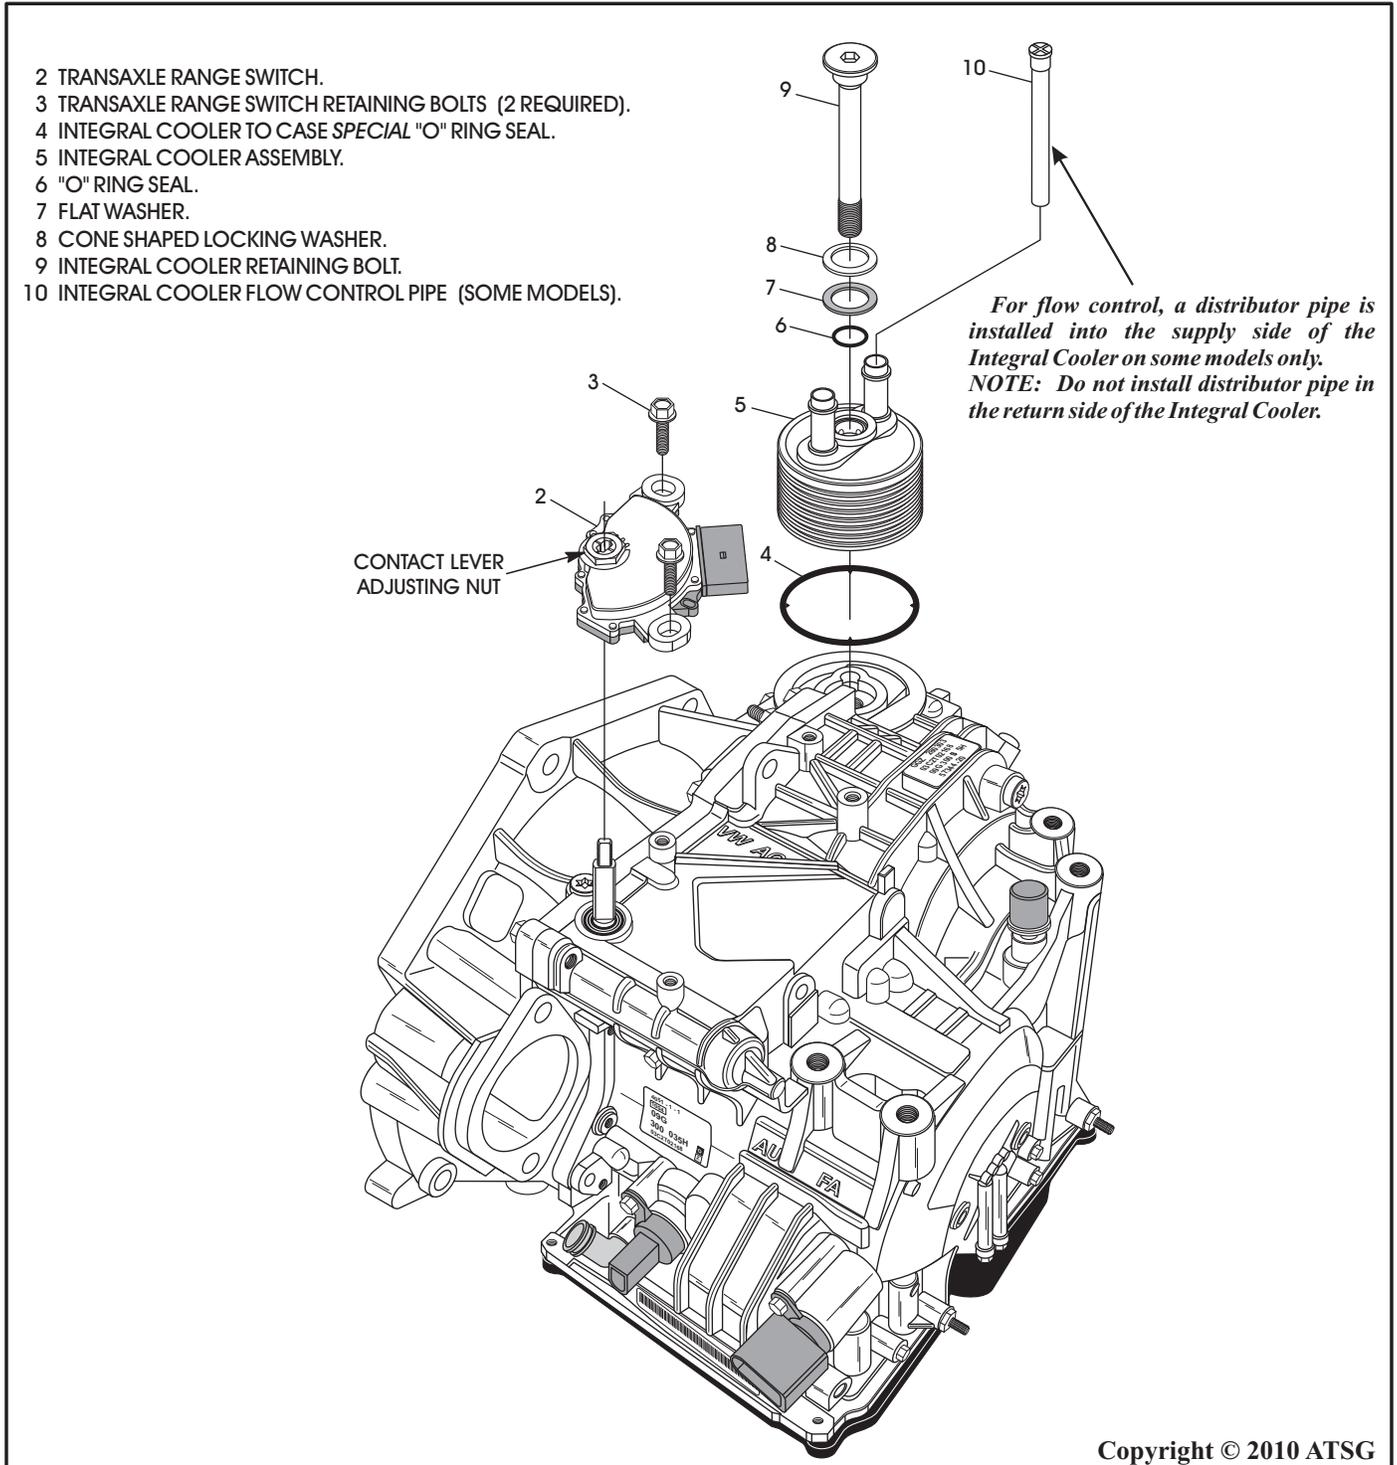

Figure 51
5. Remove the 2 transaxle range switch retaining bolts and range switch, as shown in Figure 51.
Note: The contact lever adjusting nut must not be loosened (See Figure 51).
7. Remove and discard the 2 filter seals (4) & (6), as shown in Figure 51.
Note: Notice that some models are equipped with a flow control distributor pipe in the supply side of cooler, as shown in Figure 51.